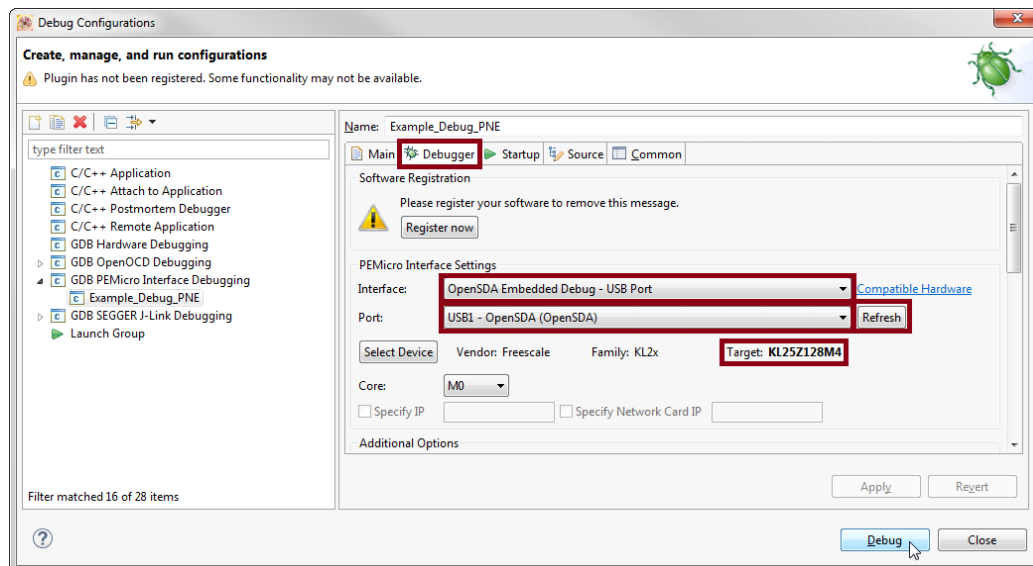

Figure 23. Downloading the Application (c)
4. Click the **Debugger** tab and set Interface option to **OpenSDA Embedded Debug - USB Port**. Then click **Refresh** button next to the **Port** setting to update list of available USB ports (see Figure 23).